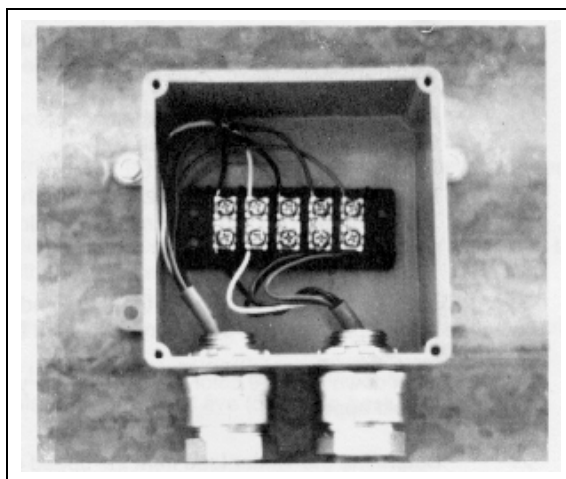

Figure 40
1. The Calc-U-Dri Moisture/Matic can be near the unit's main control box, discharge auger or other locations that are easily accessible and of convenient height for you to observe and use. Mount the electrical box using four (4) 5/16" x 1-1/2" bolts, lock washers and nuts.
4. Connect the Calc-U-Dri sensor wires in the 4 x 4 junction box to the top of the terminal strip. The leads from the Moisture/Matic box go to the bottom of the terminal block. Be careful to match the color coded wires to each other - red to red, etc. (See Figure 40.) Then, attach the junction box lid.